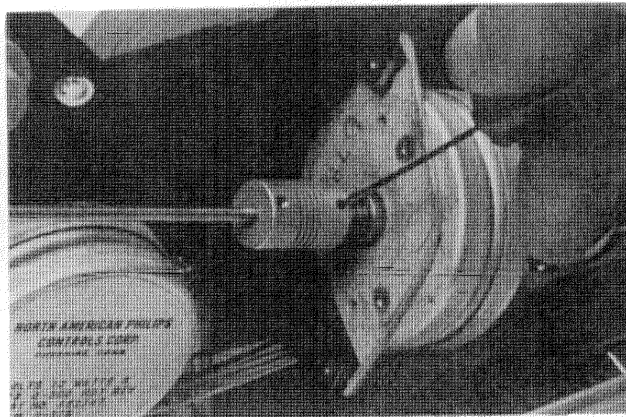

Figure 6-1. Setscrew for Setting Print-Head Home Position
- b. Loosen the setscrew in the flexible coupling nearest the print-head motor using a 0.050-inch hex key. (See figure 6-1.)